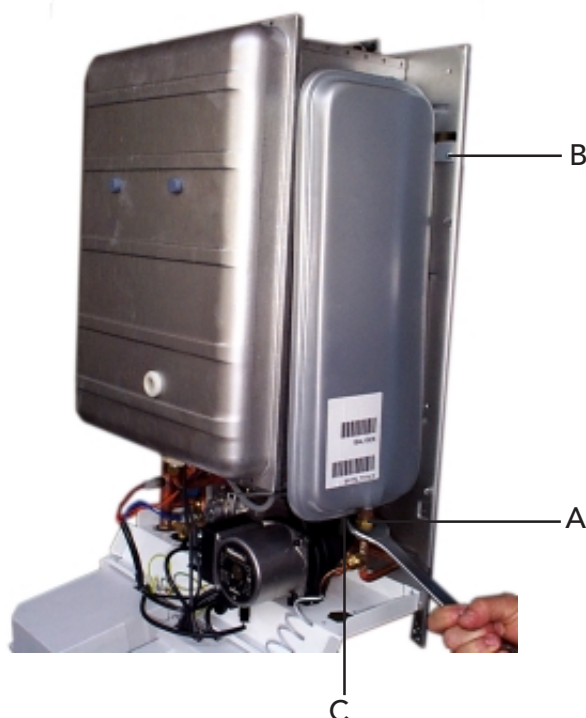

Fig. 36
**7.04 Remove and re-presurising of C.H. expansion vessel (fig. 36)**